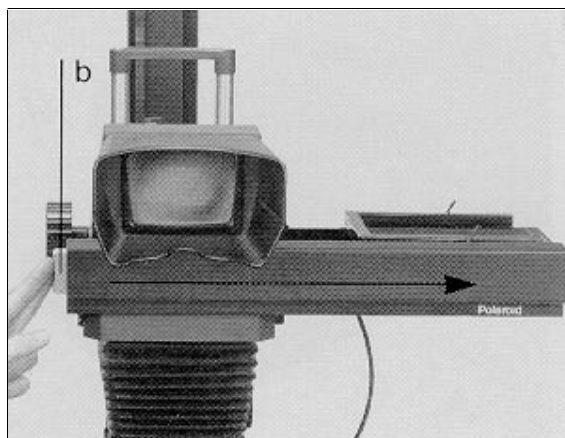

Figure 3-9. Sliding Camera Head to Right
3. Slide the camera head into the viewing position: Press the button (b, figure 3-9) and, while holding it in, push the head all the way to the right, so that the reflex view/ground glass is above the lens.